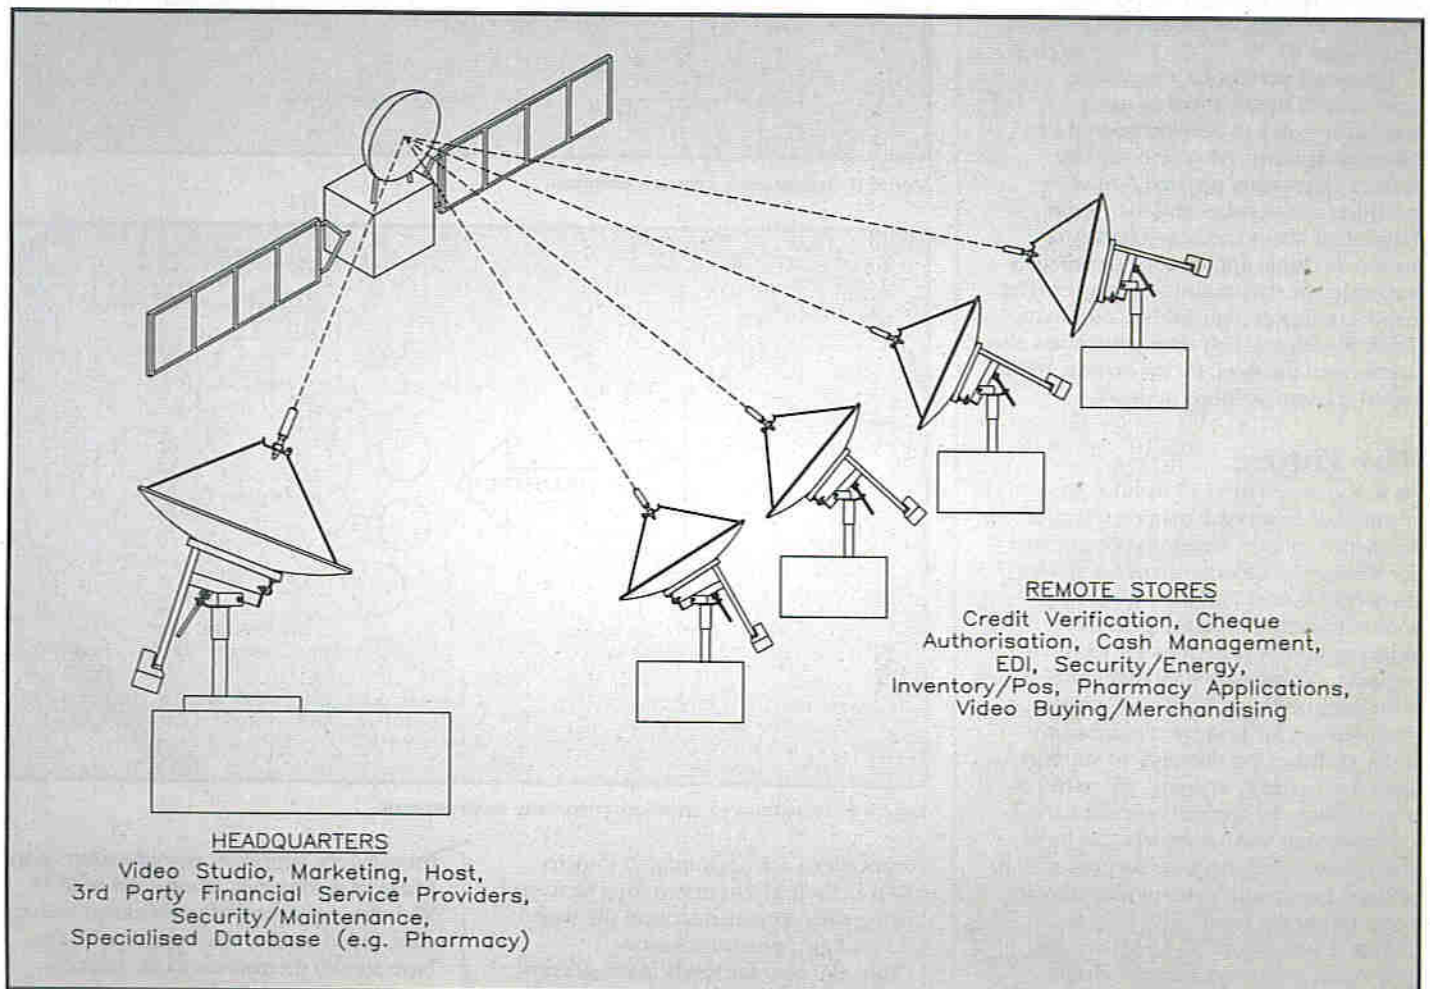

Figure 7. Retail network diagram.
**Retailing.** In the retail industry, organisations use VSATs to gather and process financial data from each store on a daily basis. Point of Sale (POS) and credit card verification are the leading applications in this market. Daily pricing information is fed to electronic checkout systems in each store. In return, the POS systems feed merchandise movement, inventory and accounting data back to the host computer system. The use of video and audio over the network is also becoming popular in the retail market. Advertising and programming can be broadcast over the network and into the store to reach consumers right at the point of purchase. Video is also widely used for training, remote buying and corporate communications (Figure 7).